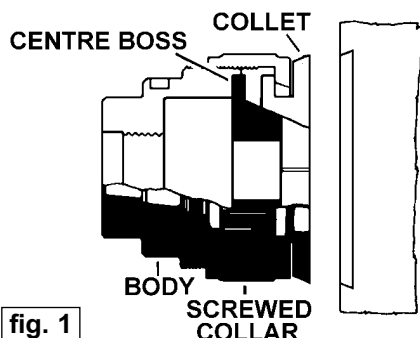

fig. 1
1.1.2. The outside of the bowl may now be turned. Incorporate in the design a suitable dovetailed recess (fig. 1) for the appropriate collet.
- 1.2.2. Assemble the chuck as illustrated in fig. 1.